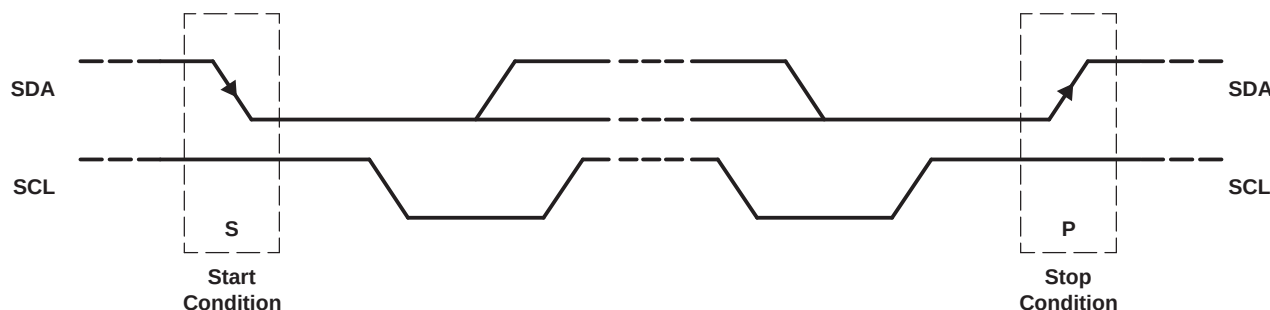

Figure 41. START and STOP Conditions
- The *Master* initiates data transfer by establishing a *Start* condition. The *Start* condition is defined when a high-to-low transition occurs on the SDA line while SCL is high, as shown in Figure 41. The byte following the start condition is the address byte consisting of the 7-bit slave address followed by the $\overline{W}$ bit.